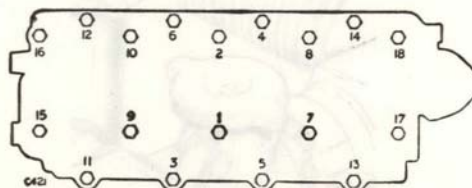

Fig. 38 Order of tightening cylinder head bolts
- (1) Remove the filler cap and remove the plug at base of radiator and drain the coolant from this point only.
- (2) Lift bonnet panel clear.
- (3) Remove the carburetter air intake pipe complete.
- (4) Disconnect: throttle return spring linkage, at a ball joint; mixture control cable, at clamp-bolt; hand throttle control, at ball joint; plug leads.
- (5) Unscrew the dome nuts securing rocker cover and lift the cover clear.
- (6) Tighten down the cylinder head bolts in the order indicated in Fig. 38. The $\frac{1}{2}$ in. U.N.F. bolts including those that secure the rocker shaft brackets must be pulled down to 65 lb./ft. (8,9 kg/m), $\frac{5}{16}$ in. U.N.F. bolts should be tightened to 18 lb./ft. (2,4 kg/m). Engine hot.